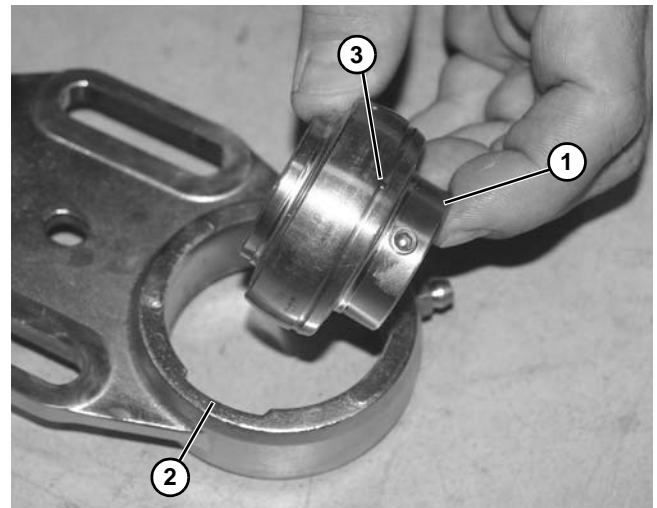

Figure 73
2. Turn bearing (Figure 73, item 1) to align with slots (Figure 73, item 2) and anti-rotation nub (Figure 73, item 3), as shown, in bearing housing. Then remove bearing.
4. Insert bearing (Figure 73, item 1) into housing slot. Locate anti-rotation nub (Figure 73, item 3) to align with slot (Figure 73, item 2) and twist bearing into housing.